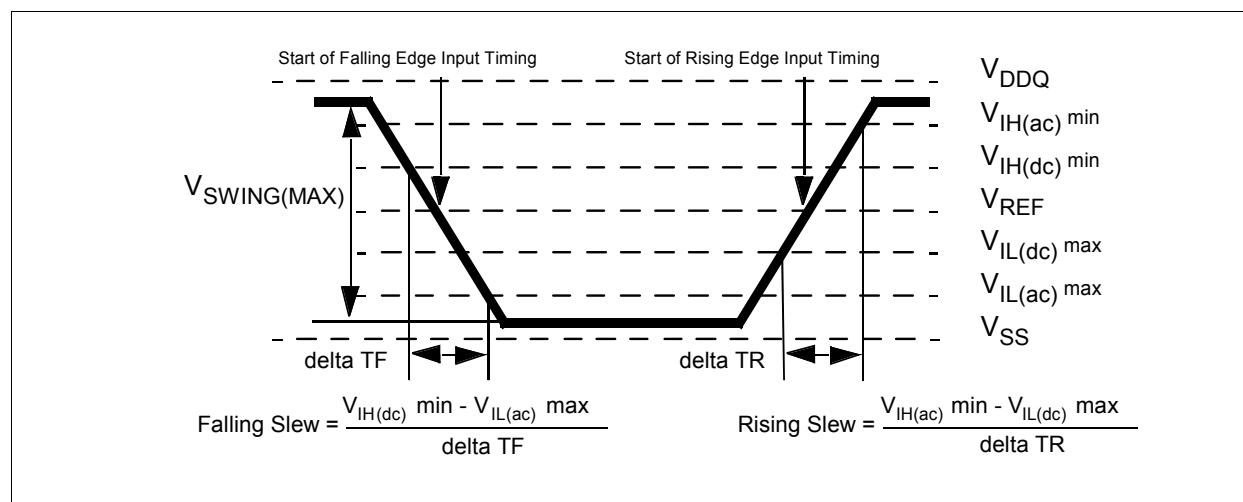

Figure 63 Single-ended AC Input Test Conditions Diagram
- 3) The input signal minimum slew rate is to be maintained over the range from $V_{IL(dc)max}$ to $V_{IH(ac)min}$ for rising edges and the range from $V_{IH(dc)min}$ to $V_{IL(ac)max}$ for falling edges as shown in Figure 63